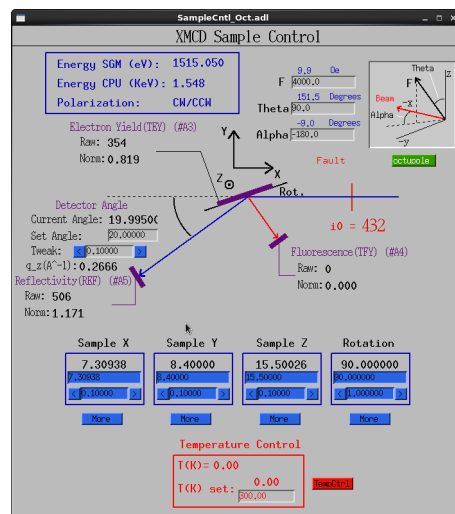

Figure 2 Octupole sample control screen
3.) After the two raw supplies are on, go to the screen on the computer and find the workspace 3 area where you will see the screen in Fig. 2 below. This is the main screen for the endstation number 1 (octupole). The magnet status and some control is shown on the screen. To turn on the converters, go to the python screen in Scanning and type:
Then check on the workspace 3 screen (see Fig. 2) that the Fault below the magnetic field settings has disappeared. Then check everything is working by typing: